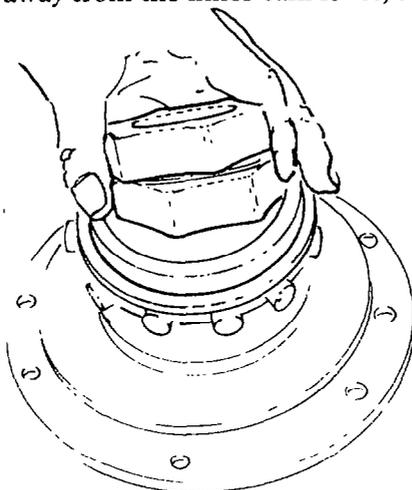

Fig. 298 — Removing Inner Cam
- a. Push all the wedges out, away from the inner cam lobes, then remove the inner cam (see fig. 298).